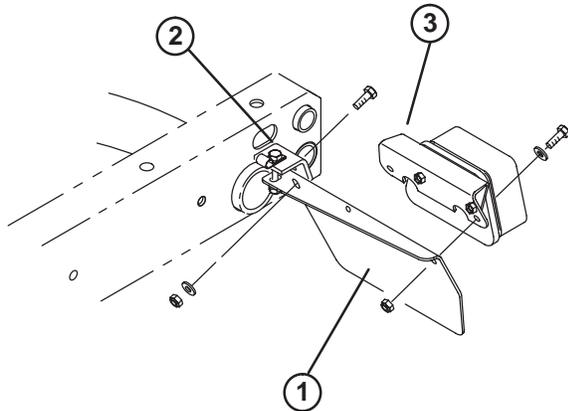

Figure 1
1. Loosen the locknuts and capscrews securing tail light plates to right and left frame brackets (Fig. 1).
3. Secure rear of each tail light plate to rear of frame brackets with a 5/16–18 x 1” lg. capscrew, .281” I.D. flatwasher and nut, as shown in figure 1.